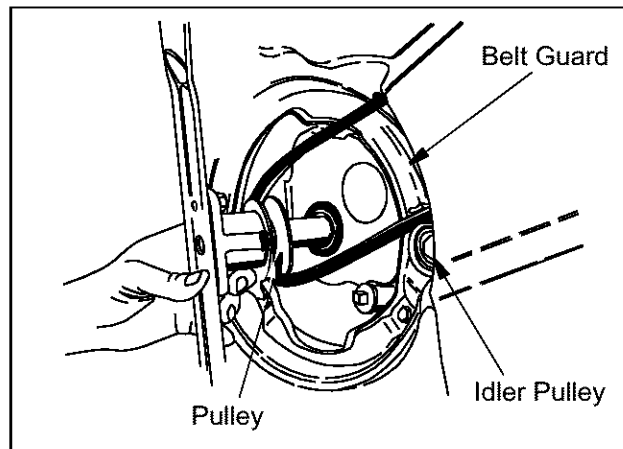

Figure 17
- Release the idler pulley so that it falls down into position. Slide the belt in between the idler pulley and the belt cover on the idler pulley bracket. See Figure 17.